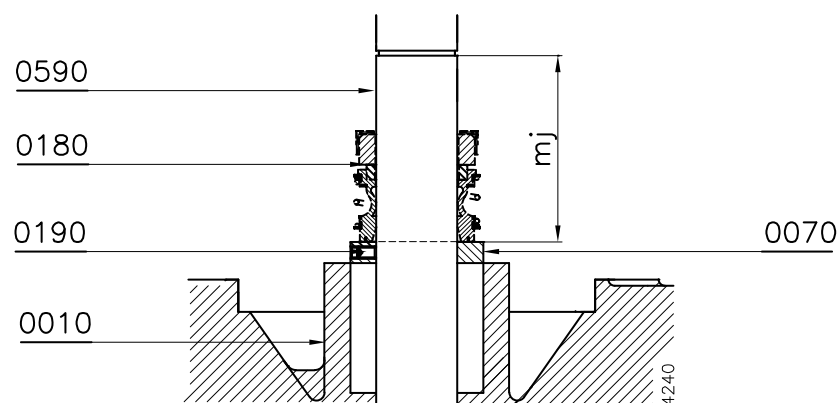

Figure 8: Adjustment of the mechanical seal.
- 1 Fit the set ring (0070) and lock this with the adjustment screw (0190) (for MCV20: (0210)). For the correct distance see the value **mj** in the table below and figure 8